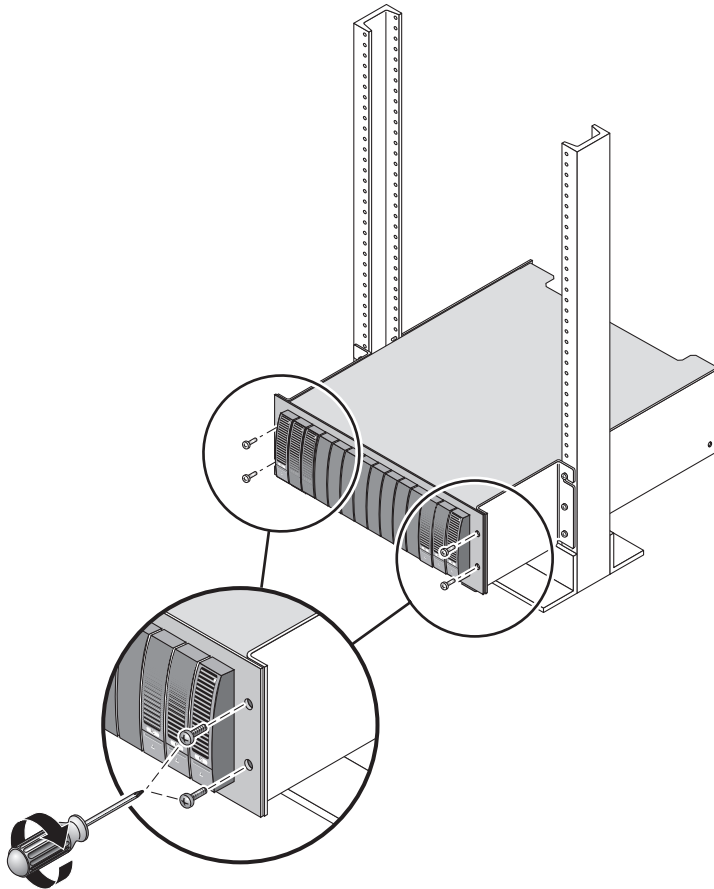

FIGURE 9 Securing the Module to the Front of the Telco 2-Post Rack
4. Use the #2 Phillips screwdriver to insert and tighten four 10-32 screws (two per side) to secure the module to the front of the rack (FIGURE 9).